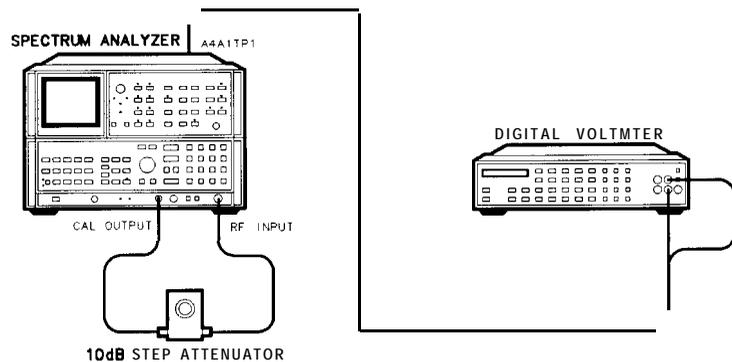

Figure 3-35. Video Processor Adjustments Setup
1. Position instrument upright as shown in Figure 3-35. Remove the top cover.